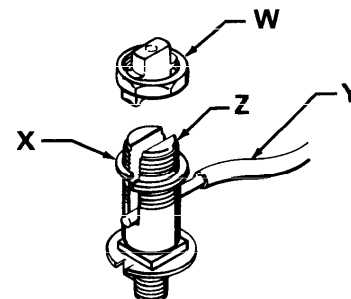

Fig 5
Loosen the grounding nut locknut (W) and washer (X). Insert one end of a 12 ga (1.3 mm) minimum ground wire (Y) into the slot in the lug (Z) and tighten the locknut securely. See Fig 5. Connect the other end of the wire to a true earth ground. See the back cover for adding a grounding wire and clamp.